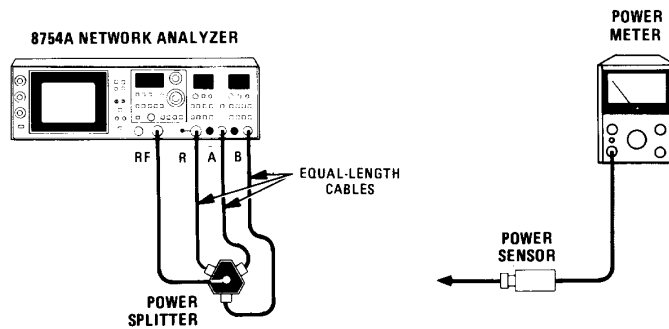

Figure 5-33. A and B Sampler Adjustment Test Setup
- k. Remove 10 dB attenuator from R INPUT. Connect equipment as shown in Figure 5-33.